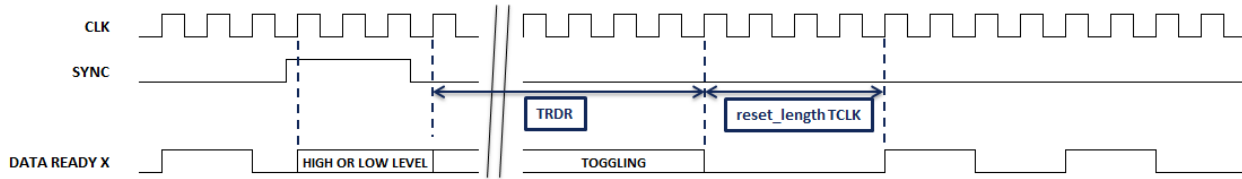

Figure 5: SYNC timing diagram in DEMUX 1:1
4. Refer to timing diagram in Figure 5.